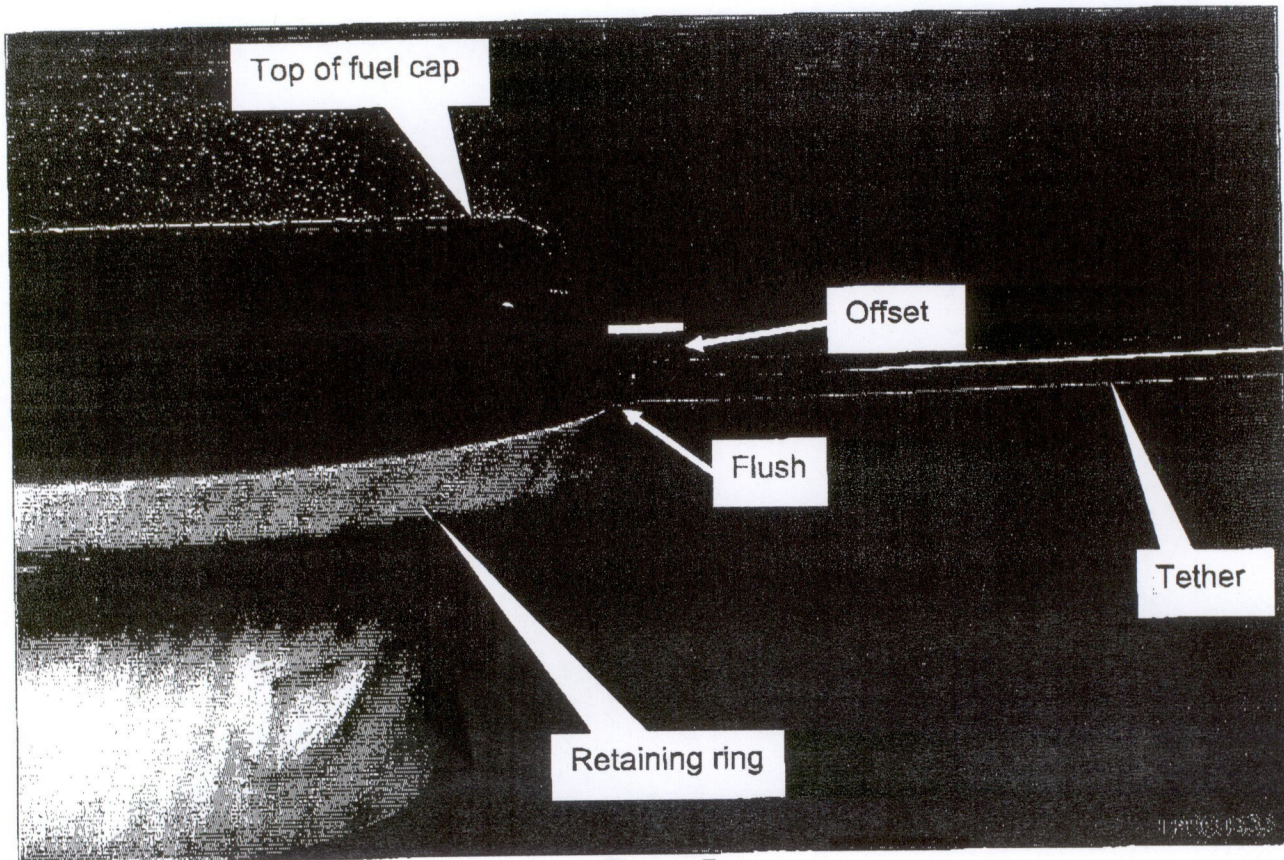

Figure 5
6. Install the new tether onto the fuel cap as shown in Figure 5.
7. Snap the gray retaining ring back into place (see Figure 5).